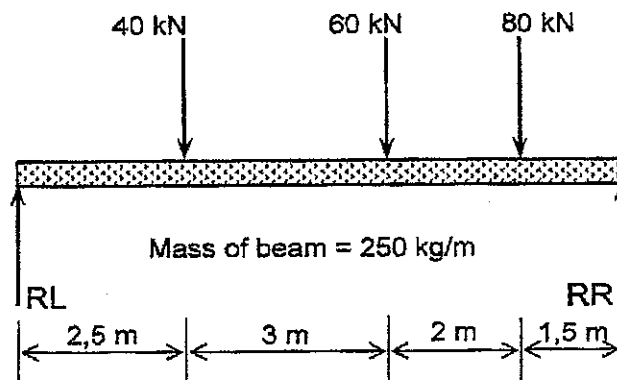

FIGURE 2
- 2.1 The beam is loaded as shown in FIGURE 2, DIAGRAM SHEET (attached) and is in equilibrium. Consider the weight of the beam and calculate the following: